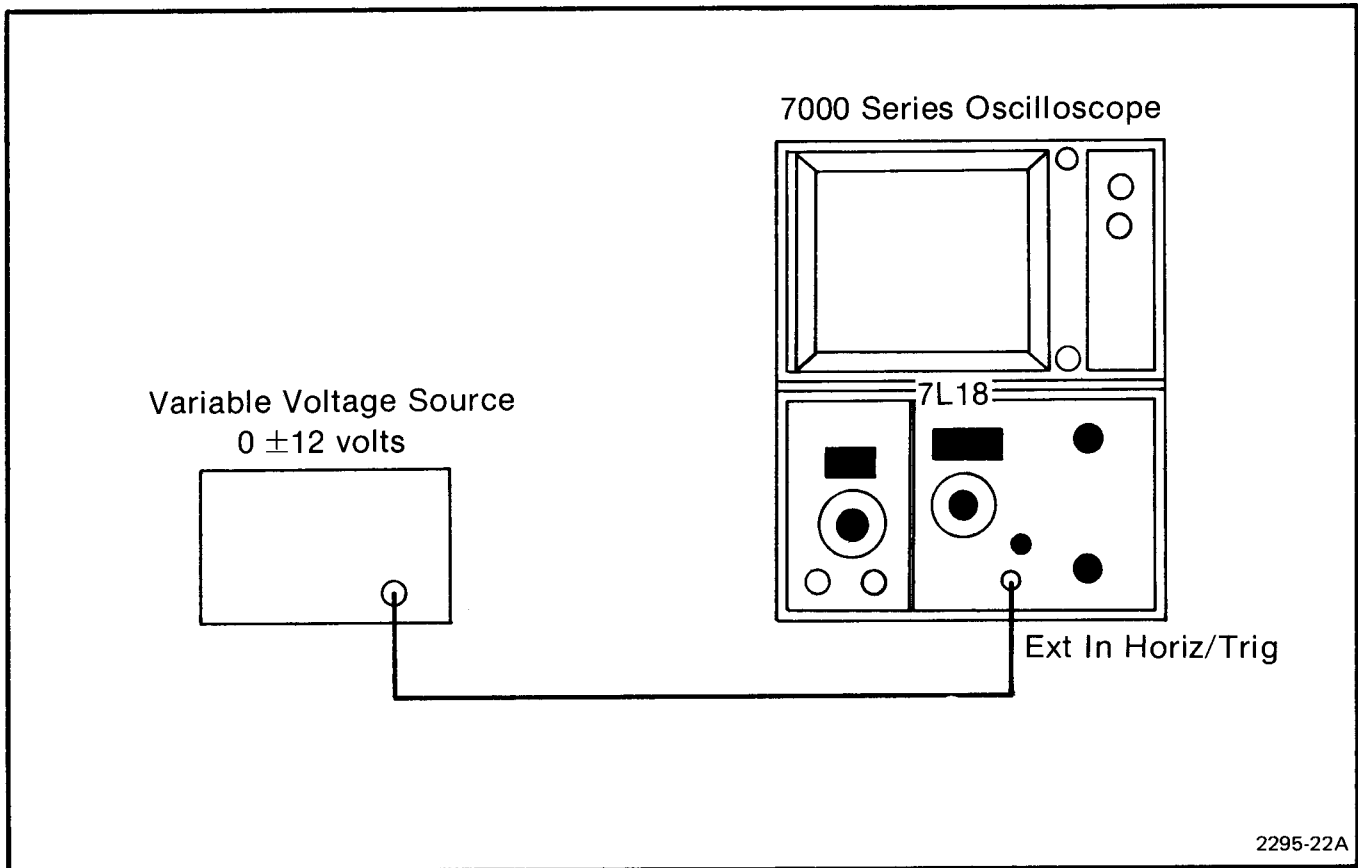

Fig. 4-14. External Horizontal Input Voltage Test Setup.
a. Connect the test setup as shown in Fig. 4-14. Set the 7L18 TIME/DIV to EXT IN, TRIGGERING to FREE RUN, FREQ SPAN/DIV to 500 MHz, and RESOLUTION BANDWIDTH to 300 kHz.